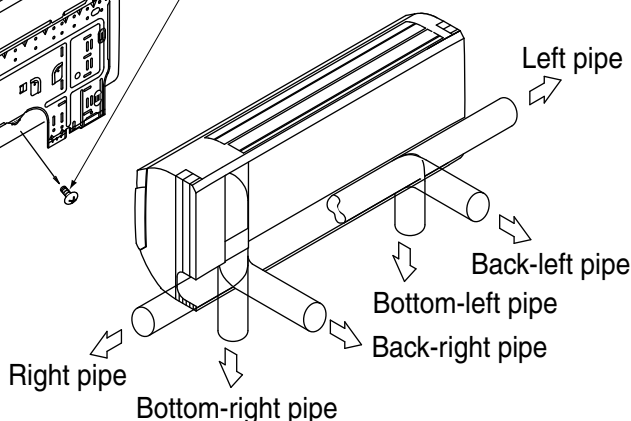

Fig. 4
- (a) Check the place for a hole for securing the installation panel (1).
- (b) Temporarily attach the installation panel (1) at the temporary-securing position using the hole, and use a level to make sure the panel is either level or its drain hose side is tilted slightly downward.
- (c) Secure the installation panel (1) to the wall using the attachment screws for the installation panel (2) or bolts.
- (2) Open the through-hole for the piping.
- The refrigerant pipe and drain pipe can be passed out in one of 6 directions: left, bottom-left, back-left, right, bottom-right, or back-right. (Refer to Fig. 4)
- Referring to the punch mark on the installation panel (1), choose where to pass the piping out and open a through-hole ($\phi 80$) in the wall.